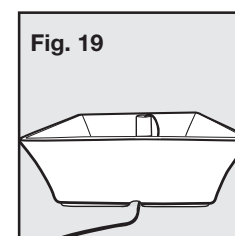

Fig. 19
- Press down on the pump to engage the suction cups. Once the pump is securely in place, feed the in-line plug of the electrical power cord over and through the raised post and out the notch in the base of the bowl (**Fig. 19**).